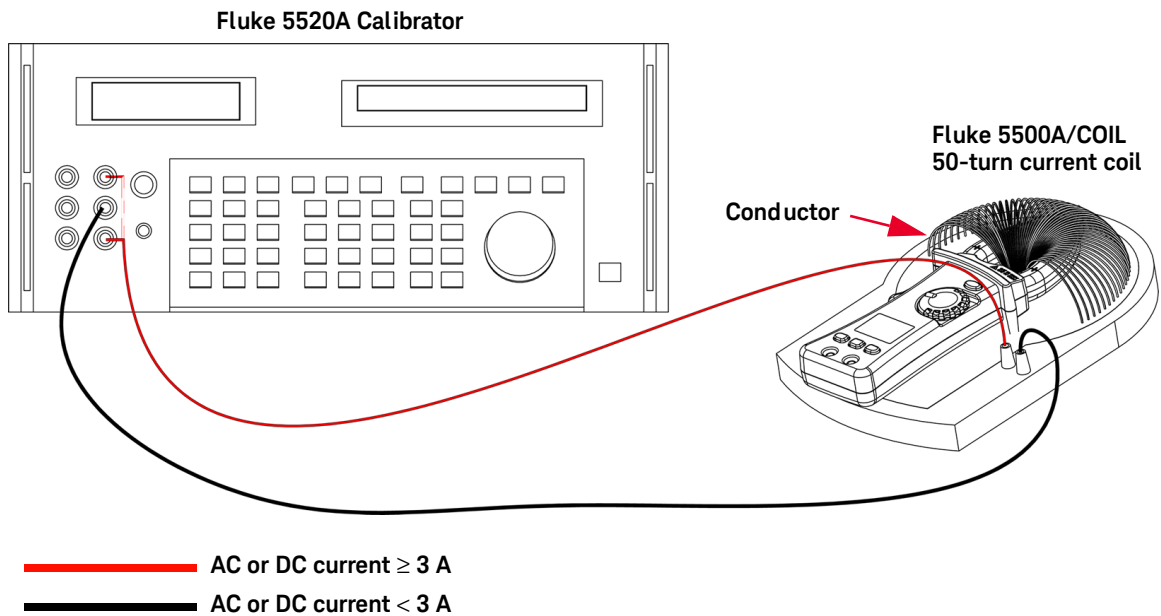

Figure 1-3 Current performance verification test setup
- 1 Place the clamp meter on to a Fluke 5500A/COIL 50-turn current coil as shown in Figure 1-3, “Current performance verification test setup,” on page 30.